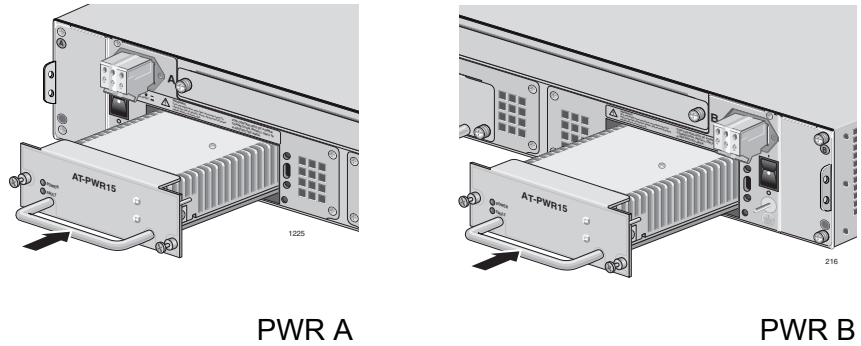

Figure 58. Inserting the AT-PWR15 DC Power Supply
- Slide the AT-PWR15 DC power supply into the selected slot, as shown in Figure 58, until the module is flush with the front of the chassis.